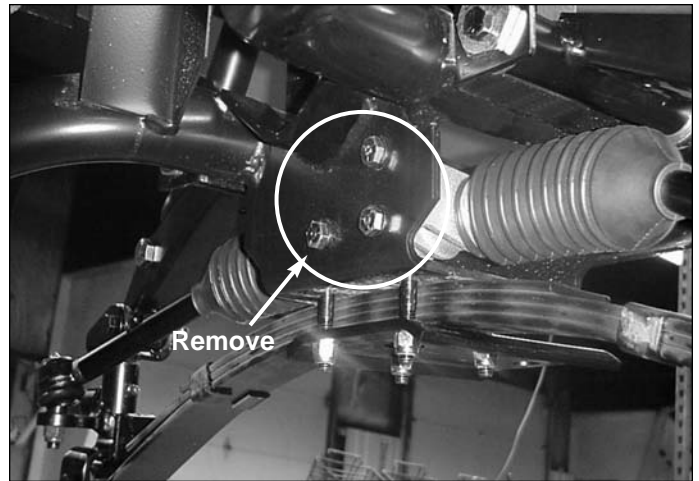

Figure 4 - Remove Steering Assembly
- Remove three bolts securing rack and pinion steering assembly to frame. See Figure 4.